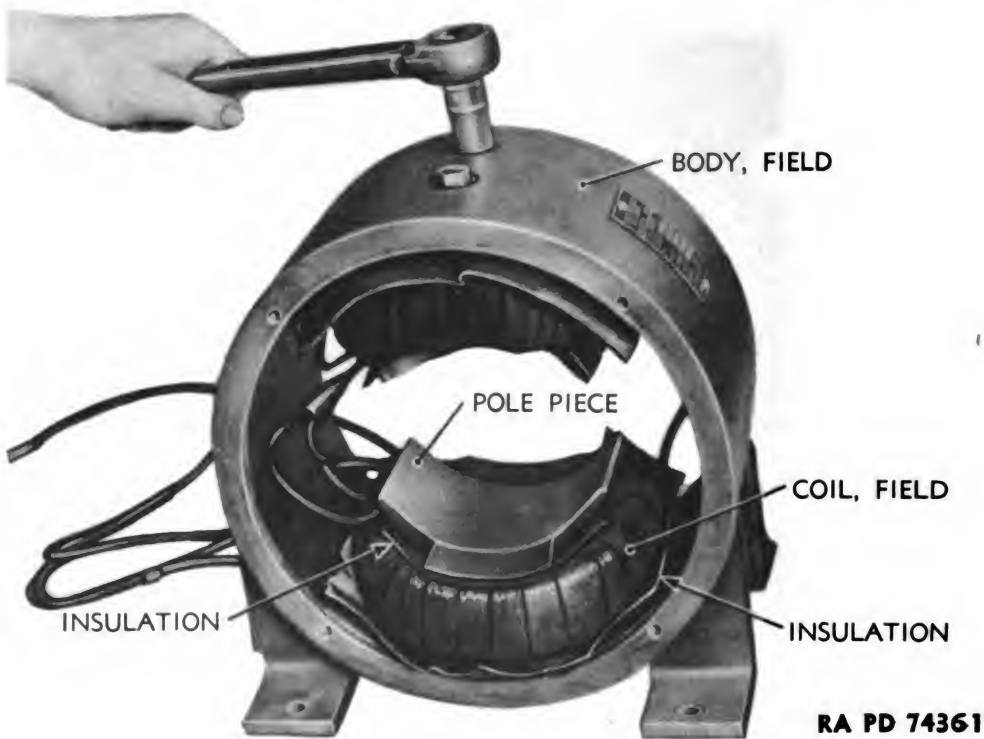

Figure 205 — Removing Exciter Field Coils
(9) Press out bearings from commutator head and pulley end hood.
(10) Take out cap screws at top and bottom of field body (fig. 205), and remove field coils, pole pieces, and insulation (fig. 206).